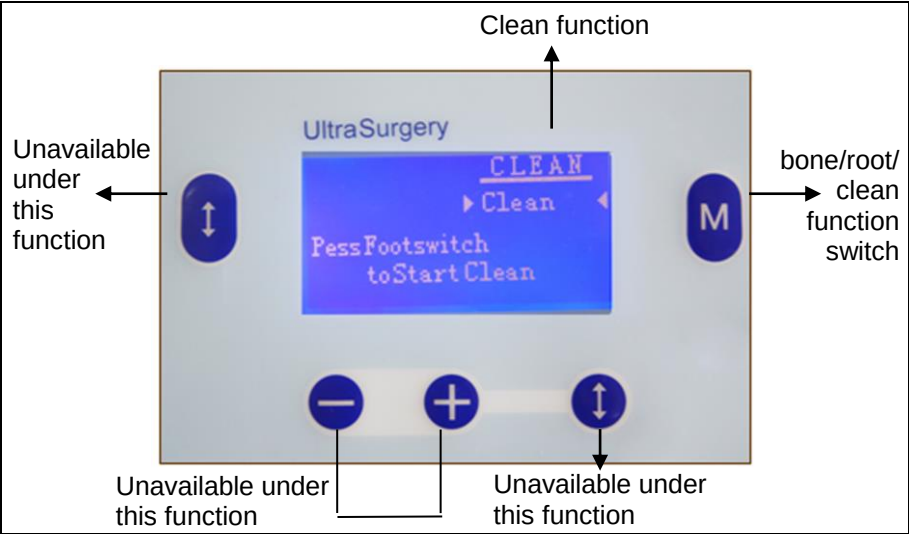

Fig. 10
c) *Clean function (Fig. 10)*
- 3** Start the **CLEAN** function (Fig. 10);